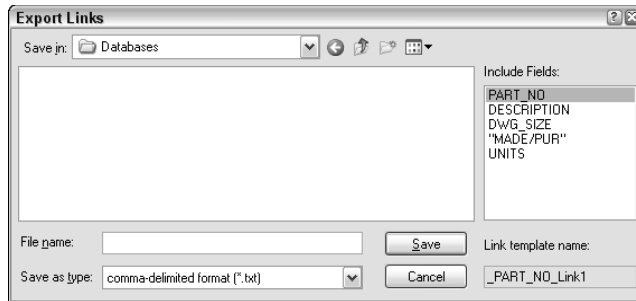

Figure 20-12: The Export Links dialog box.
2. At the **Select objects:** prompt, choose the objects whose links you want to export. When you complete object selection, AutoCAD opens the Export Links dialog box, shown in Figure 20-12.